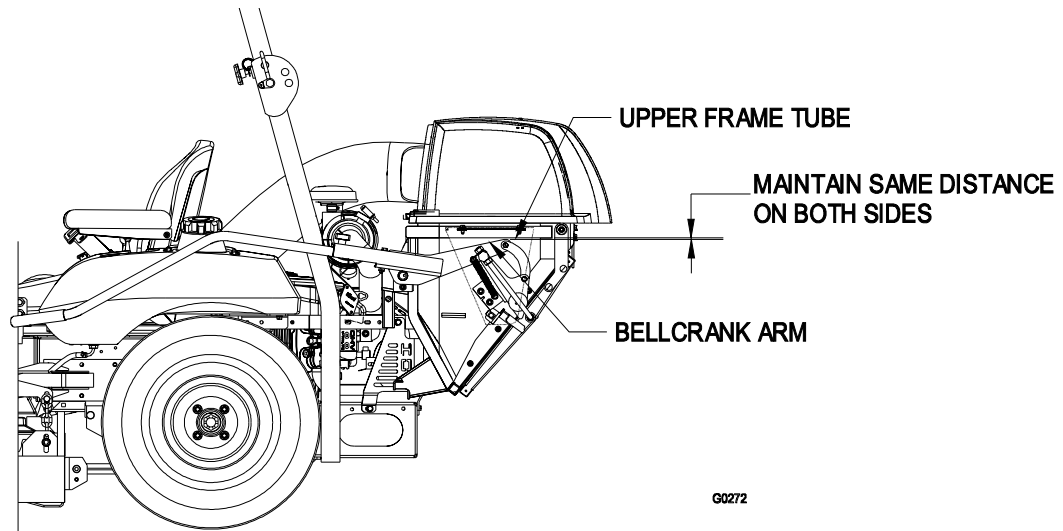

FIGURE 9
- 3.7.1 **Arm Position:** The left and right bellcrank arms control the timing of the left and right door opening mechanisms. The ends of these arms must be positioned equally from the upper frame tube for proper actuation. Check this distance with the door closed. If adjustment is necessary, loosen the allen head clamping screw on the hub of the right hand arm. Position the arms so that their ends are the same distance from the upper frame tube. Tighten the clamping bolt to hold them in this position. See Figure 9.
- 5.2.1 **Arm Position:** The left and right bellcrank arms control the timing of the left and right door opening mechanisms. The ends of these arms must be positioned equally from the upper frame tube for proper actuation. Check this distance with the door closed. If adjustment is necessary, loosen the allen head clamping screw on the hub of the right hand arm. Position the arms so that their ends are the same distance from the upper frame tube. Tighten the clamping bolt to hold them in this position. See Figure 9.